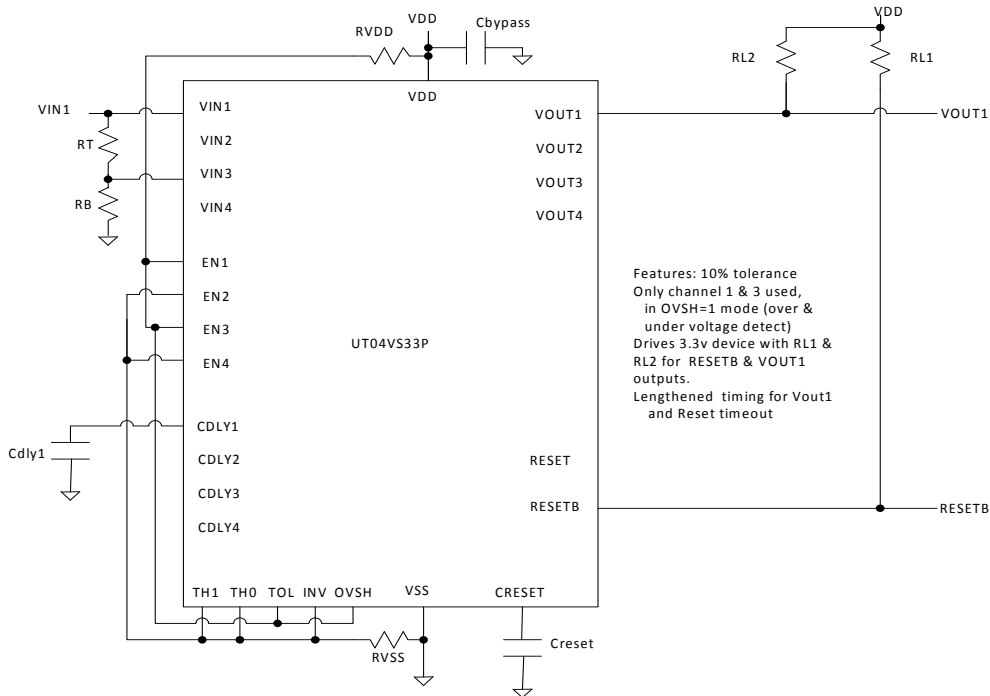
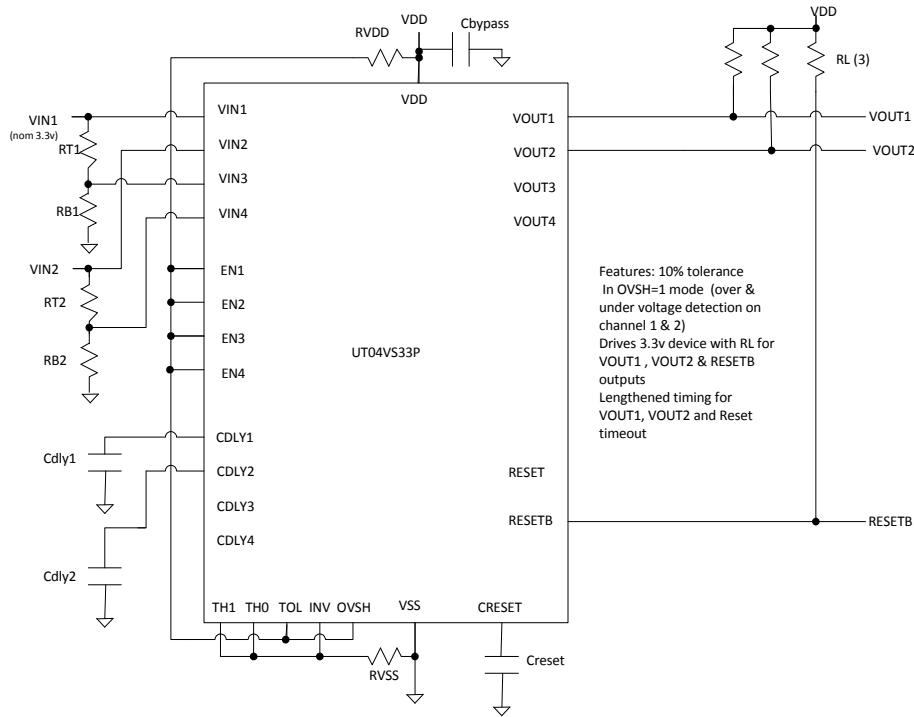

Figure 8. Extended use application showing OVSH connection for channel 1
Figure 9. Extended use application showing OVSH connection for channel 1 and 2
3. For OVSH=1, V_{TH_OVRV} is the threshold which is set with external resistors to either the V_{IN3} or V_{IN4} input to monitor an over-voltage condition in conjunction with the under-voltage monitor by VIN1 or VIN2, respectively, as shown in Figure 8 and Figure 9.
Shown in Figure 8 is an extended application showing the use of Cdly and Creset capacitors. OVSH is set to logic 1 to highlight the under- and over-voltage detection mode connections. Thus, a resistor voltage-divider on channel 3 is connected from the channel 1 source.
Shown in Figure 9 is an extended application showing the use of Cdly and Creset capacitors. OVSH is set to logic 1 to highlight the under- and over-detection mode connections on channel 1 and channel 2. Thus an r-divider on channel 3 and 4 are connected from the channel 1 and 2 source, respectively